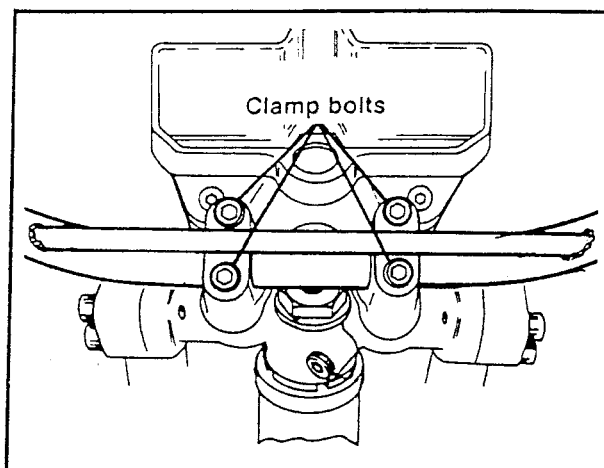

Figure 5-43. Handlebar Installation
1. See Figure 5-43. The handlebars should be adjusted to the most comfortable position for the rider. Tighten the handlebar clamp bolts to 13-16 N·m (10-12 ft-lbs).